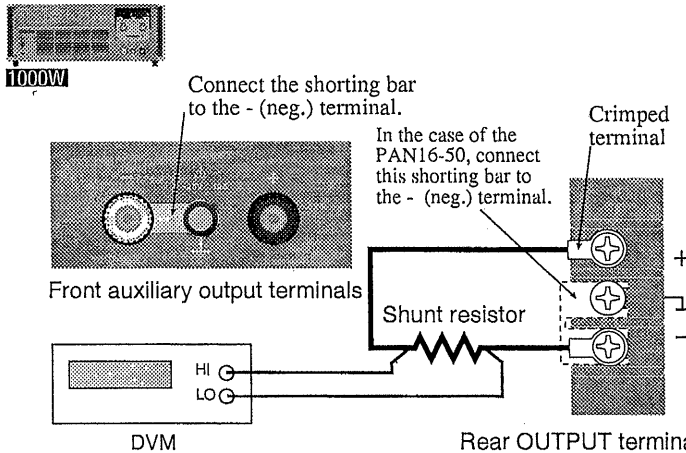

Fig. 5-3B Connection for current system calibration (model 1000W)
- For the model 1000W user, see Fig. 5-3B.
- ④ Connect the - (neg.) terminal and the chassis ground terminal (\perp) with the shorting bar.